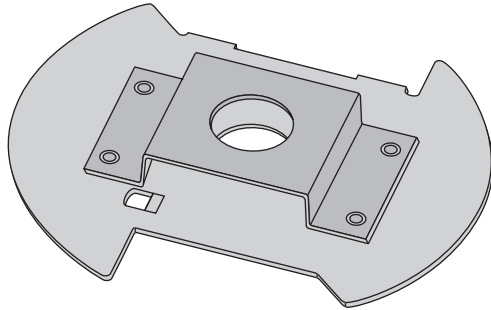
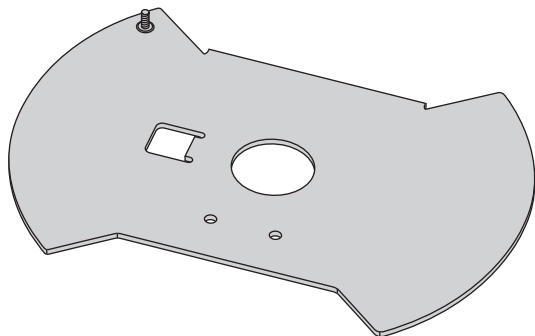

Figure 12
Figure 13
- 6a. For all switch housings with baffle plates, examine the baffle plate to determine which type it is. A "Type A" baffle plate has a bracket riveted to the bottom of the plate. See Figure 12 on page 8. A "Type B" baffle plate has no such bracket. See Figure 13 on page 8.